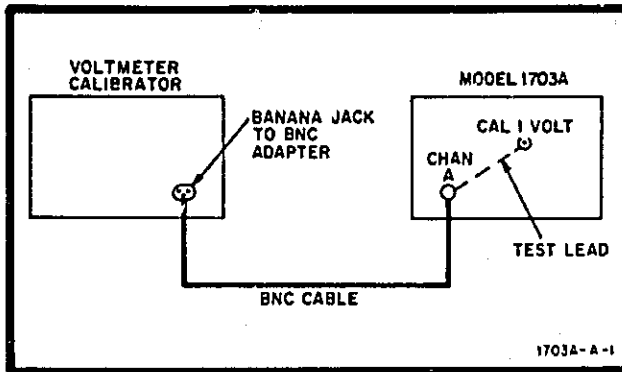

Figure 5-2. Calibrator Test Setup
- a. Connect instruments as shown in figure 5-2.